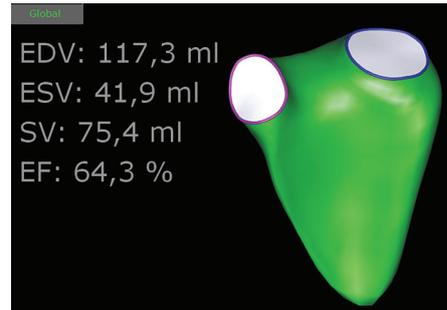

Figure 4 Model with global results.
3D volumes over time are computed numerically from the dynamic surface model and used to calculate end-diastolic volume (EDV), EDVi*, end-systolic volume (ESV), ESVi*, ejection fraction (EF) and systolic volume (SV) (**Figure 4**). Additionally, the surface model is intersected with the RV-focused four-chamber view to derive standard 2D measurements (RVLS, TAPSE, FAC and distances) from the same geometry. ES and ED are identified as the frames with the lowest and largest ventricular volumes. The volume over time is also displayed in a volume-versus-time curve.